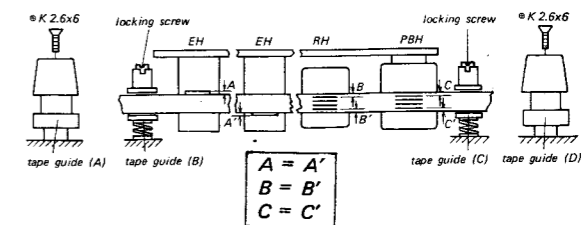

Fig. 3-1-8. Tape Path Adjustment
(See Fig. 3-1-8.)
After individual head replacement, make head height adjustment for the replaced head, referring to Fig. 3-1-8.
- (1) Make sure that tape runs as shown in Fig. 3-1-8.
- (2) If not, adjust tape guides (B) and (C).